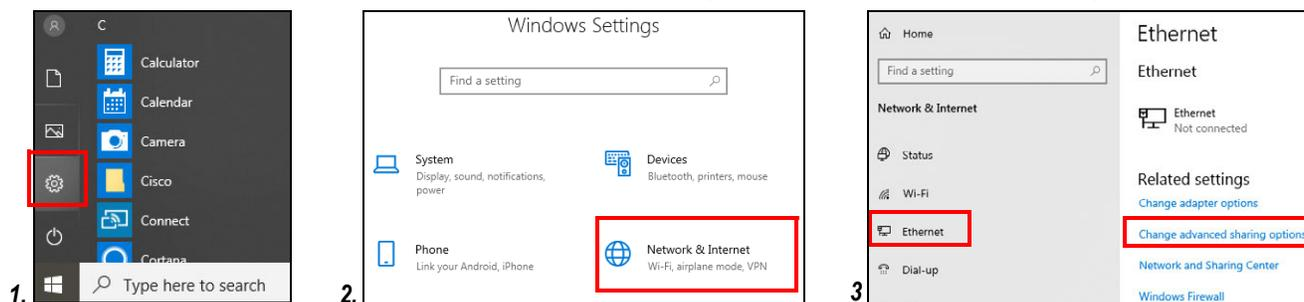

Figure 2-4. Setting IP Address
1. From the Start menu, select Settings. See step 1 in Figure 2-4.
2. In Windows Settings, select Network and Internet. See step 2 in Figure 2-4.
3. In Network and Internet, select Ethernet, then select Change Adapter Options. See step 3 in Figure 2-4.